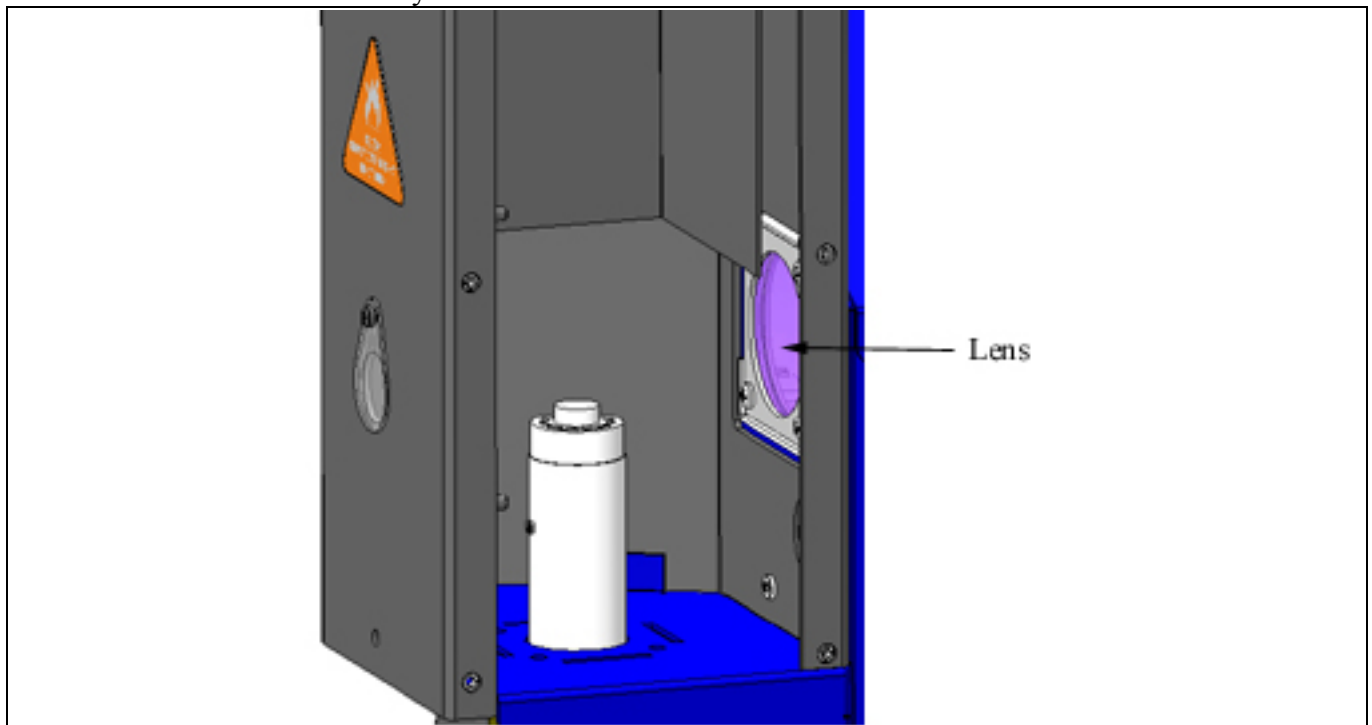

Figure 7.6
- Reach into the Outer Chimney and clean the window *very* gently using a *very* soft cloth or cotton swab soaked in Decon 90. See Figure 7.6.